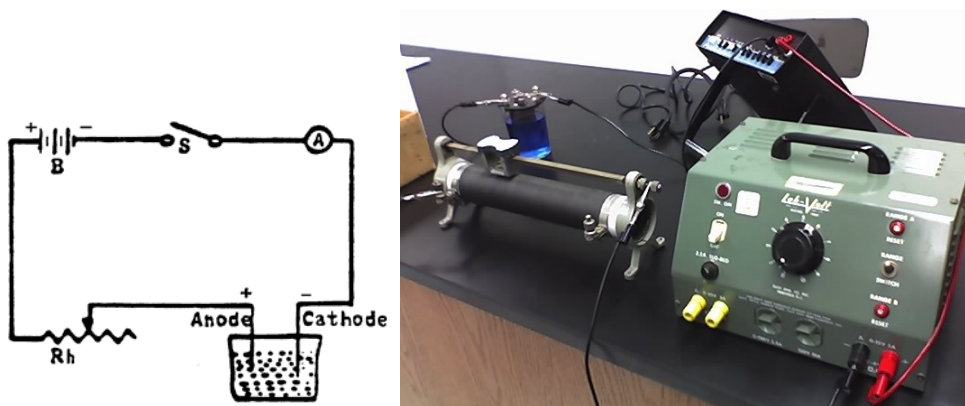

Figure 1: Equipment Layout
If an electric current is passed through an electrolyte such as a copper sulfate solution with the arrangement shown in Figure 1. Positive copper ions are attracted to the negative electrode (or cathode). These copper ions take their needed two electrons from the cathode, and at the same time, change to uncharged electrons and deposit on the electrode. Hence, by weighing the electrode before the current is turned on and then again after some particular mass of copper has been deposited, the number of atoms deposited can be determined from the difference in the two weights. **NOTE: Be sure to clean contacts on the cover for 2nd trial.** If a current I is allowed to flow through the copper solution for a time t , the quantity of positive charge q transferred to the cathode by the copper ions is given by $Q = It$, where Q is in coulombs (C), I in amperes (A), and t in seconds (s). With the number of atoms known from the gain in weight of the cathode, and the total charge carried by this number of atoms. It is a simple computation to determine the charge that each copper atom carried as a positive ion. Then since each ion has a charge of $2e$, the charge on the electron is easily found.